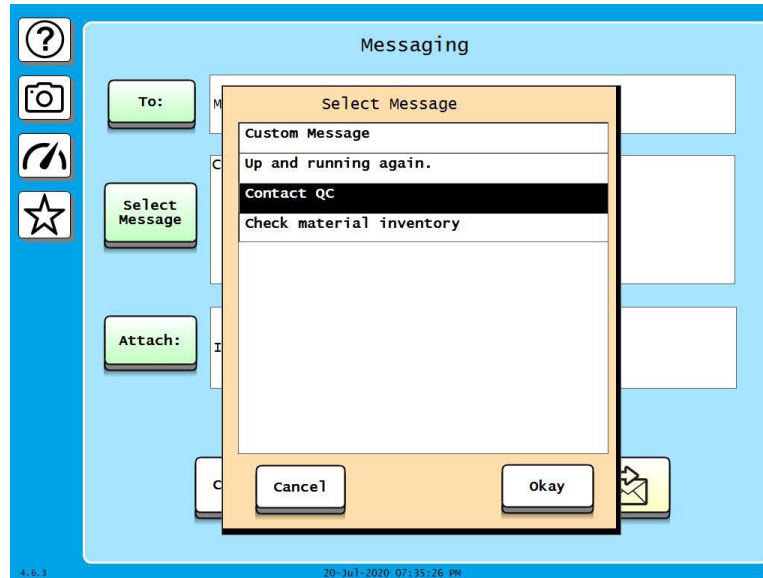

Figure 5-14. Select Message Window
5. Press **Select Message**. The Select Message screen appears, Figure 5-14.